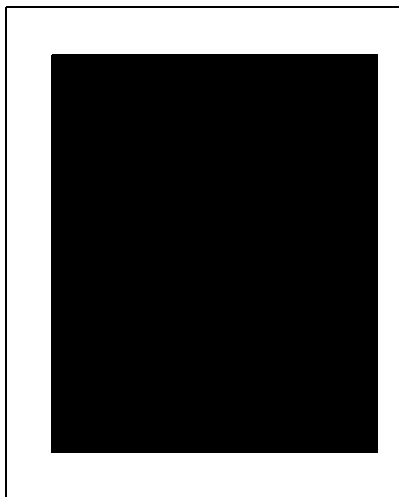

Figure 4-2. Area Calibration Background (Front).
- Area Calibration Background (L-015-1686), see Figure 4-2 and 4-3.